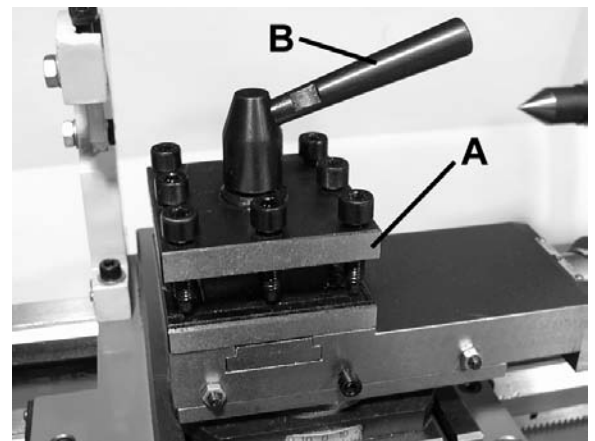

FIGURE 13
The 4-way tool post assembly (A) Fig.13 can lock up to 4 cutting tools into place at a time (use at least 2 cap screws per cutting tool). The tool post can pivot 360° for various cutting situations. To pivot the tool post assembly, loosen handle (B) and pivot tool post, retighten handle.